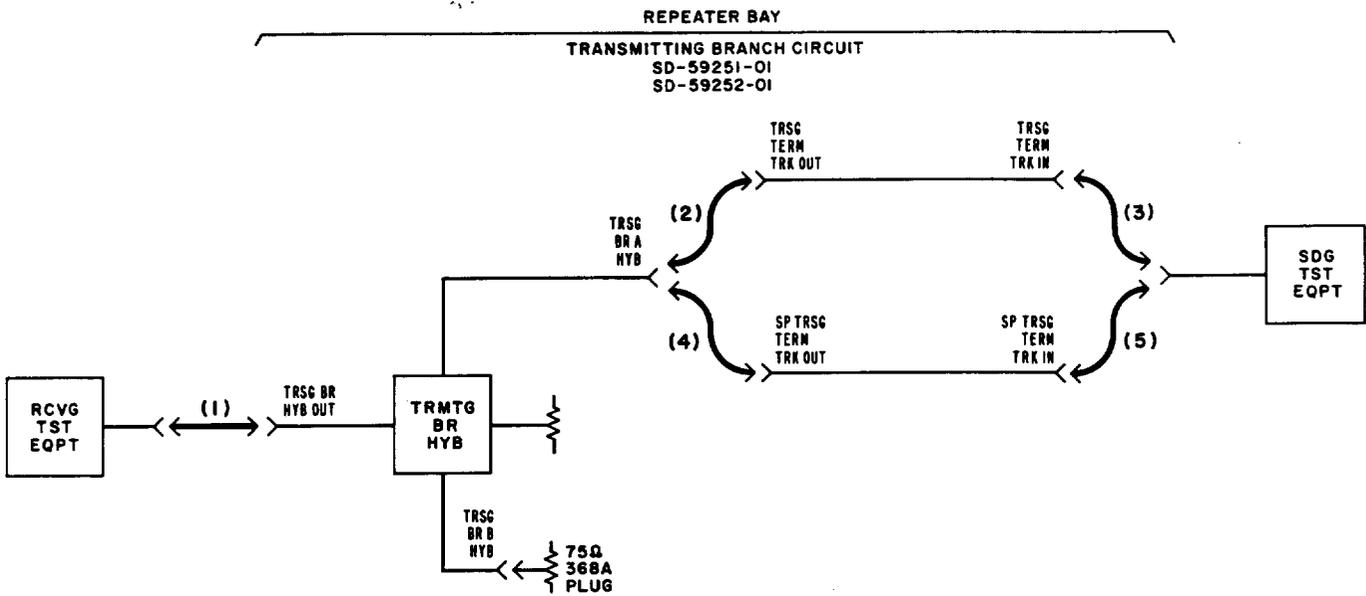

Fig. 2—Transmission Test of Transmitting Branch Hybrid Equipment
11	In the repeater bay jack field, terminate the TRSG BR B HYB jack with a 368A termination plug (see Fig. 2).
14	In the repeater bay jack field, make patches designated (1), (2) and (3) in Fig. 2.
16	Make patches designated (1), (4) and (5) in Fig. 2.